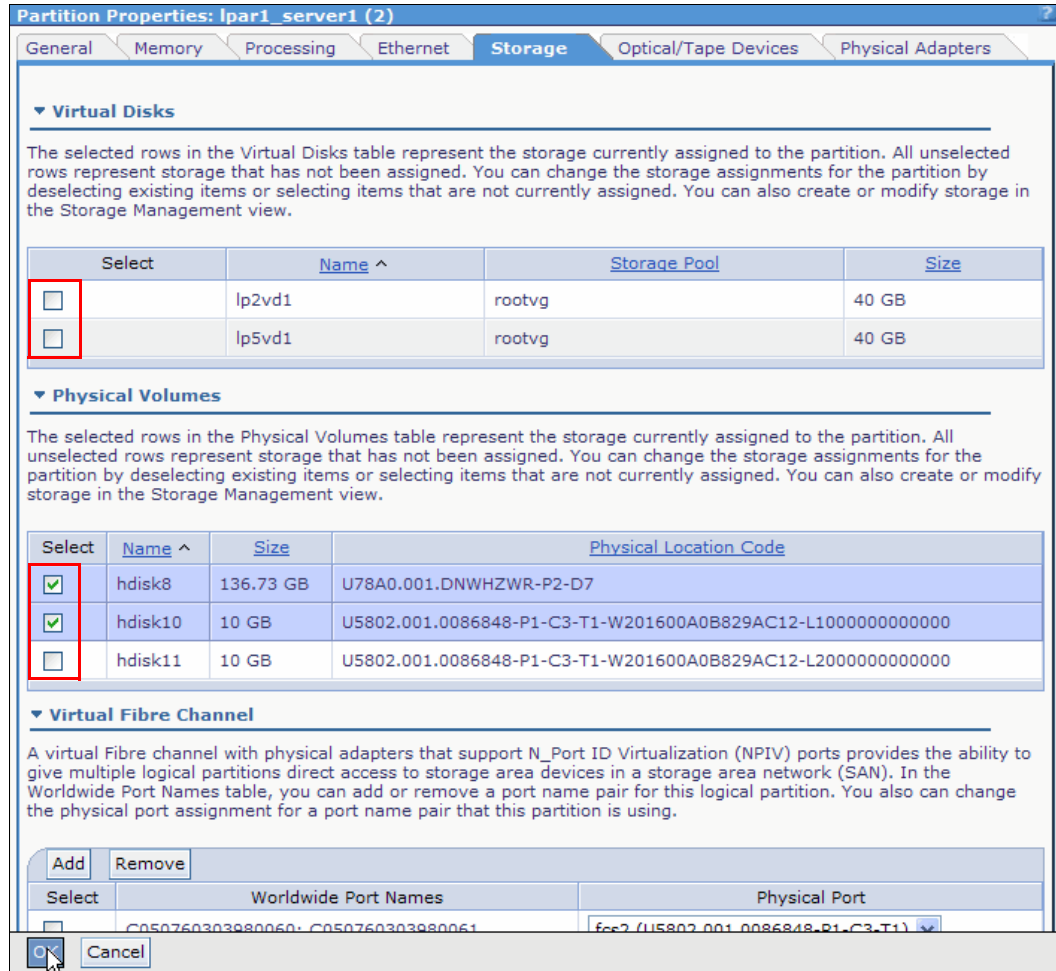

Figure 4-73 View/Modify Virtual Storage: Virtual Disks selection
1. To add or remove virtual disks or physical volumes, click the **Storage** tab of Partition Properties, **Select** the disks that you want to add and clear the disks that you want to remove and click **OK**, as shown in Figure 4-73.